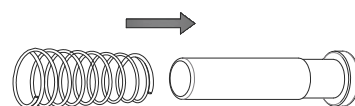

Fig. 6
Insert the Plunger Spring (12) inside the syringe plunger (13). Note the spring is tapered. Insert the spring from the narrow side into the syringe plunger which will rest on the syringe plunger flange. The wide side of the spring will be on top. Refer Fig 6